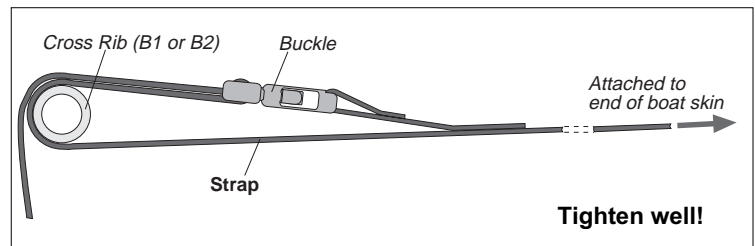

Figure 4, Securing Cross Ribs (B1) and (B2)
11. Locate the *strap* attached to the front end of the *boat skin* and secure *cross rib (B2)* as shown in *Figure 4*.
13. Locate the *strap* attached to the rear end of the *boat skin* and secure *cross rib (B1)* as shown in *Figure 4*.